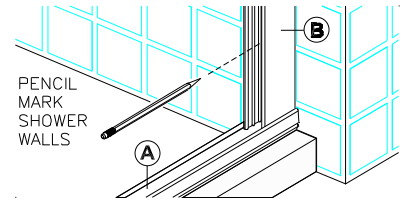

figure 2
3. Place Wall Jamb (B) on to ends of Sill (A) and up against shower walls as shown in figure 2. Plumb the Jamb, then pencil mark their installation holes locations on the shower walls (3 per jamb). Remove Wall Jamb. Using a 3/16" drill bit (designed to drill through material you are working with), drill 1" deep installation holes in locations previously marked. Insert Plastic Screw Anchors (J) into holes.